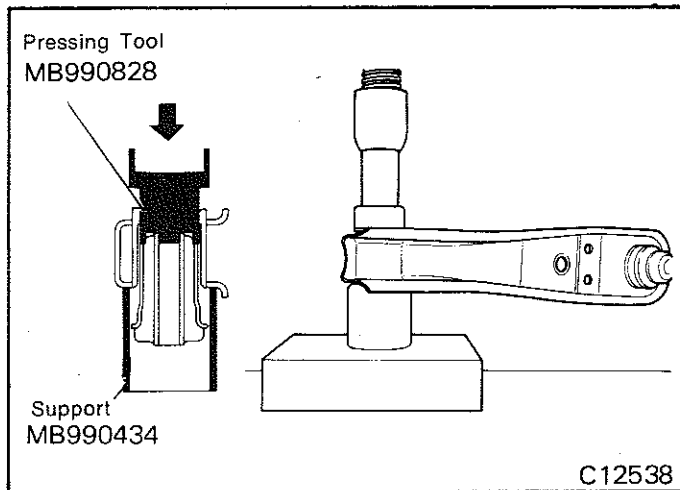

Fig. 23—Removing the lower arm bushing
(7) Later models are equipped with a one piece lower arm shaft bushing. Using special tools MB990828 and MB990434 (as shown in Fig. 23), press out the bushing.